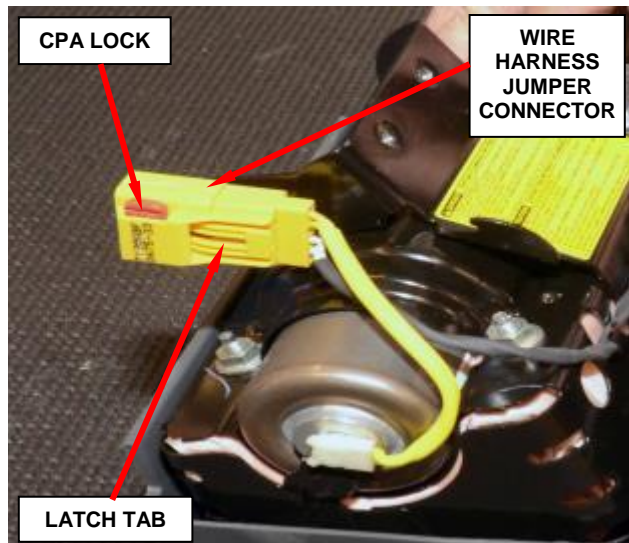

Figure 54 – Wire Harness Jumper
- a. Slide the red Connector Position Assurance (CPA) lock on the connector toward the side of the connector (Figure 54).